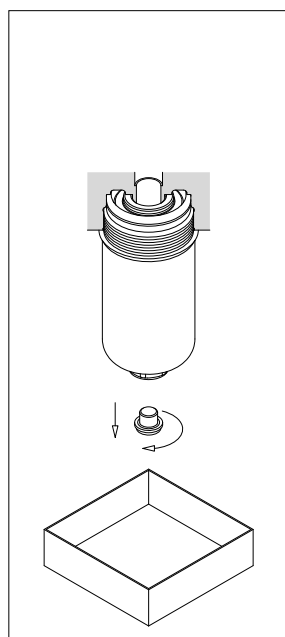

fig. 9
- (Fig. 9) If provided, unscrew the drain plug after placing a vessel to collect the operating fluid